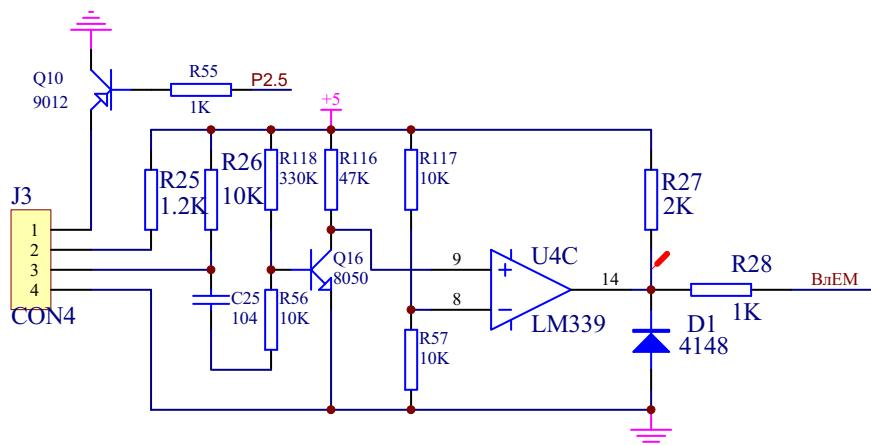

Fig.19 The circuit diagram of width sensor
### (2) PRO85UM, PRO85UM/S (Fig.19)